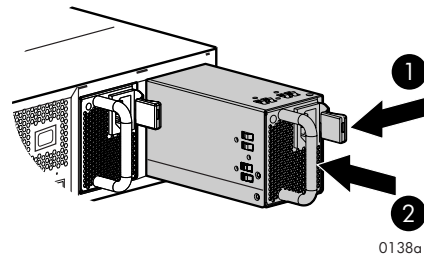

**Figure 3 Removing a power supply**
2. While moving the wine-colored latch to the left (1, Figure 3), grasp the handle and pull the power supply out of the enclosure (2).